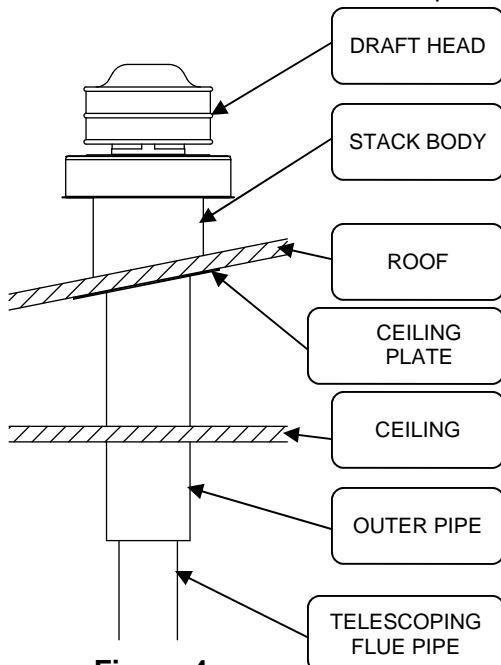

Figure 4
Step 12. Insert the roof jack into the opening in the roof and ceiling and fasten the flashing of the roof jack to the roof with the sheet metal screws provided. Apply additional mastic to complete the weather seal (see Figure 4).
Step 13. If optional ceiling plate is used, place over outer pipe against ceiling and secure with (4) screws (see Figure 4).
The outer pipe **MUST** extend below the ceiling as noted on the outer pipe of the roof jack (see Figure 4).